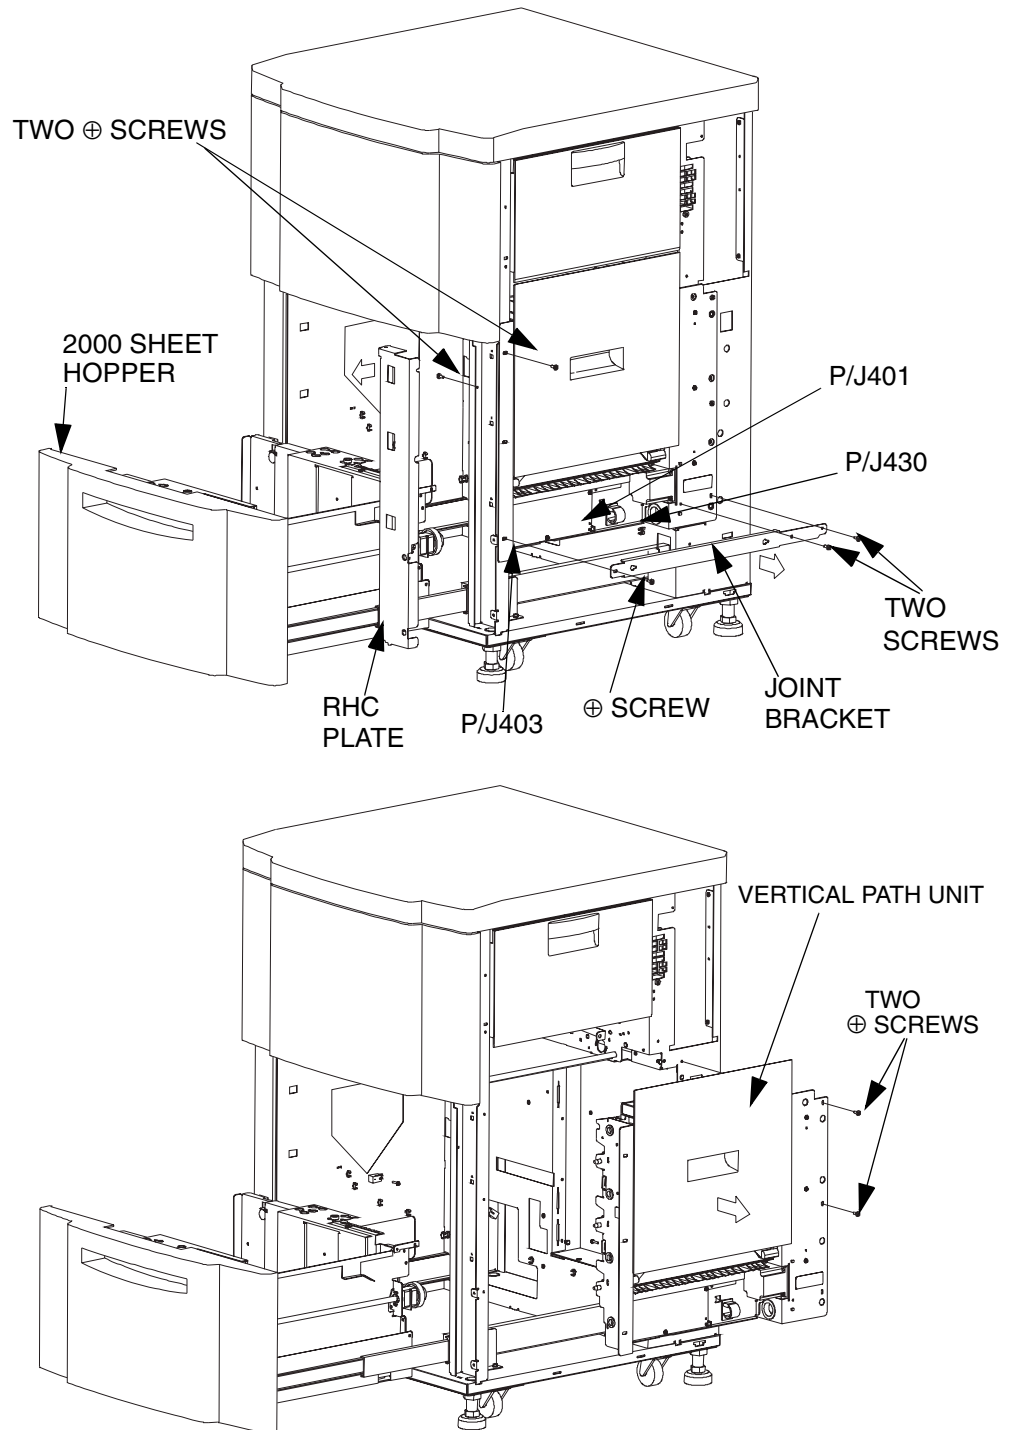

Figure 7-190. Removal of the Vertical Path Unit
1. Remove the RH Cover, the RH Rear Side Cover Assembly, the Rear Cover and the RH Side Lower Cover. (Refer to item 3.3.2. (1) on page 3-12)
2. When the Auxiliary Sheet Hopper is attached, remove it. (Refer to item 7.2.1 on page 7-216)
3. Remove the two 500 Sheet Hoppers. (Refer to item 7.1.4.1 on page 7-151)
4. Unscrew the four screws to remove the Hopper Hold Plate (1).
9. Unscrew the two screws and pull out the Vertical Path unit in the direction of the arrow. (Refer to Figure 7-190 on page 7-169)